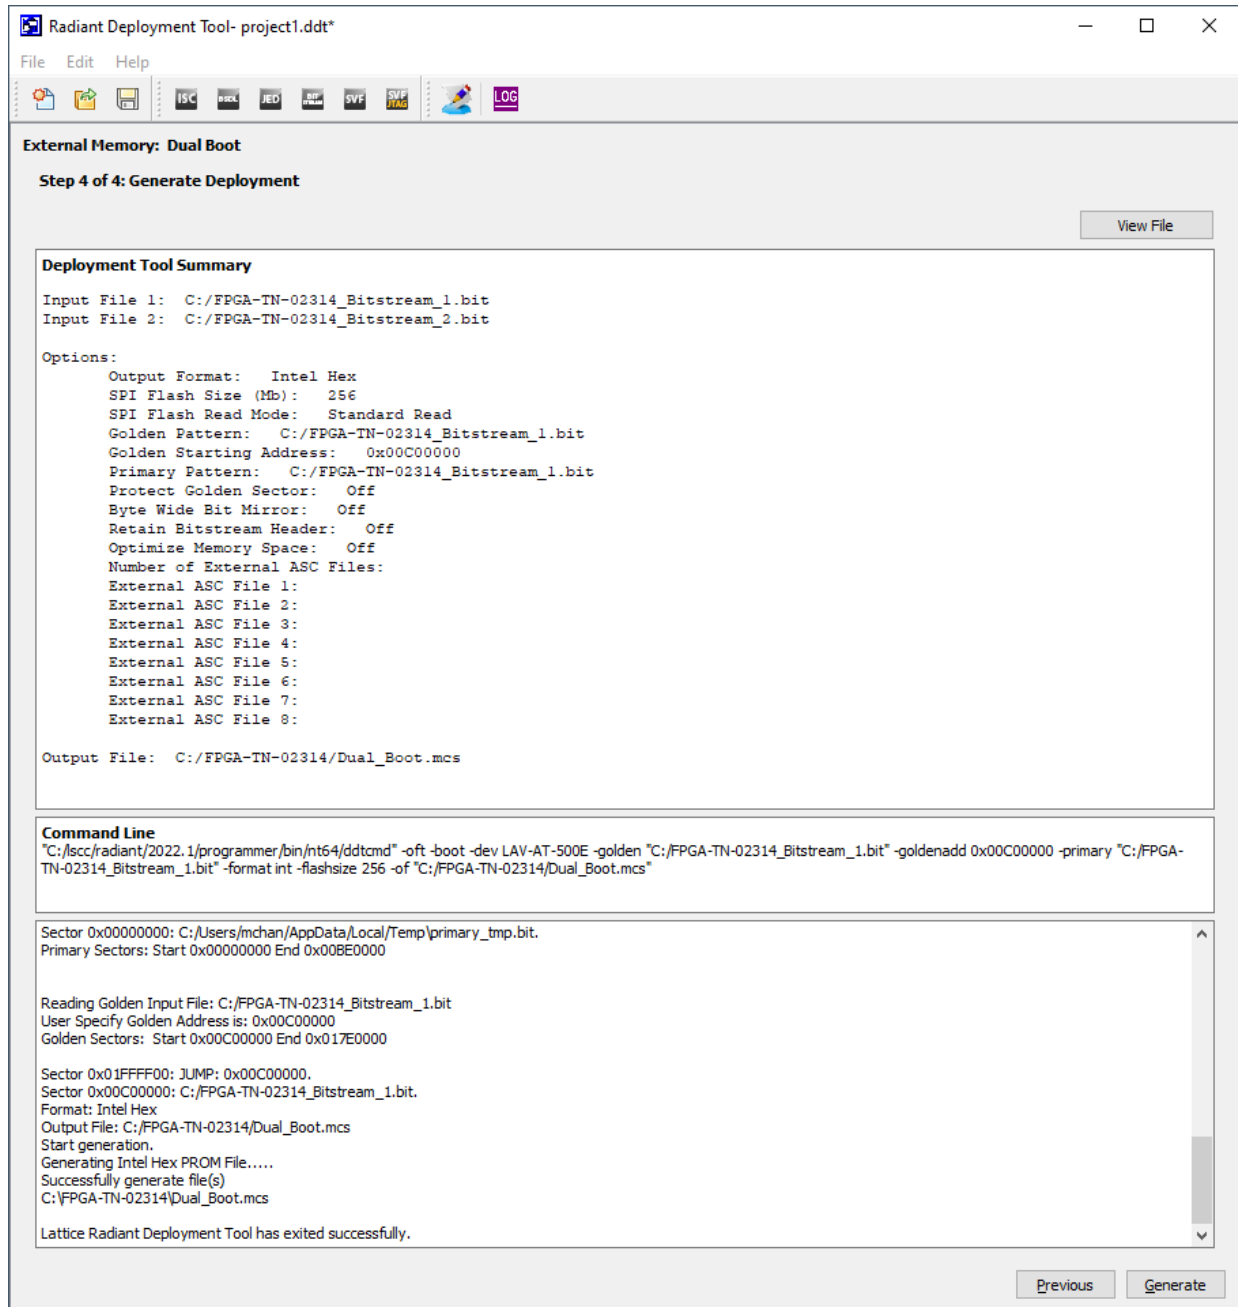

Figure 4.5. Generate Deployment Window
Step 4 of 4: Generate Deployment window (Figure 4.5)